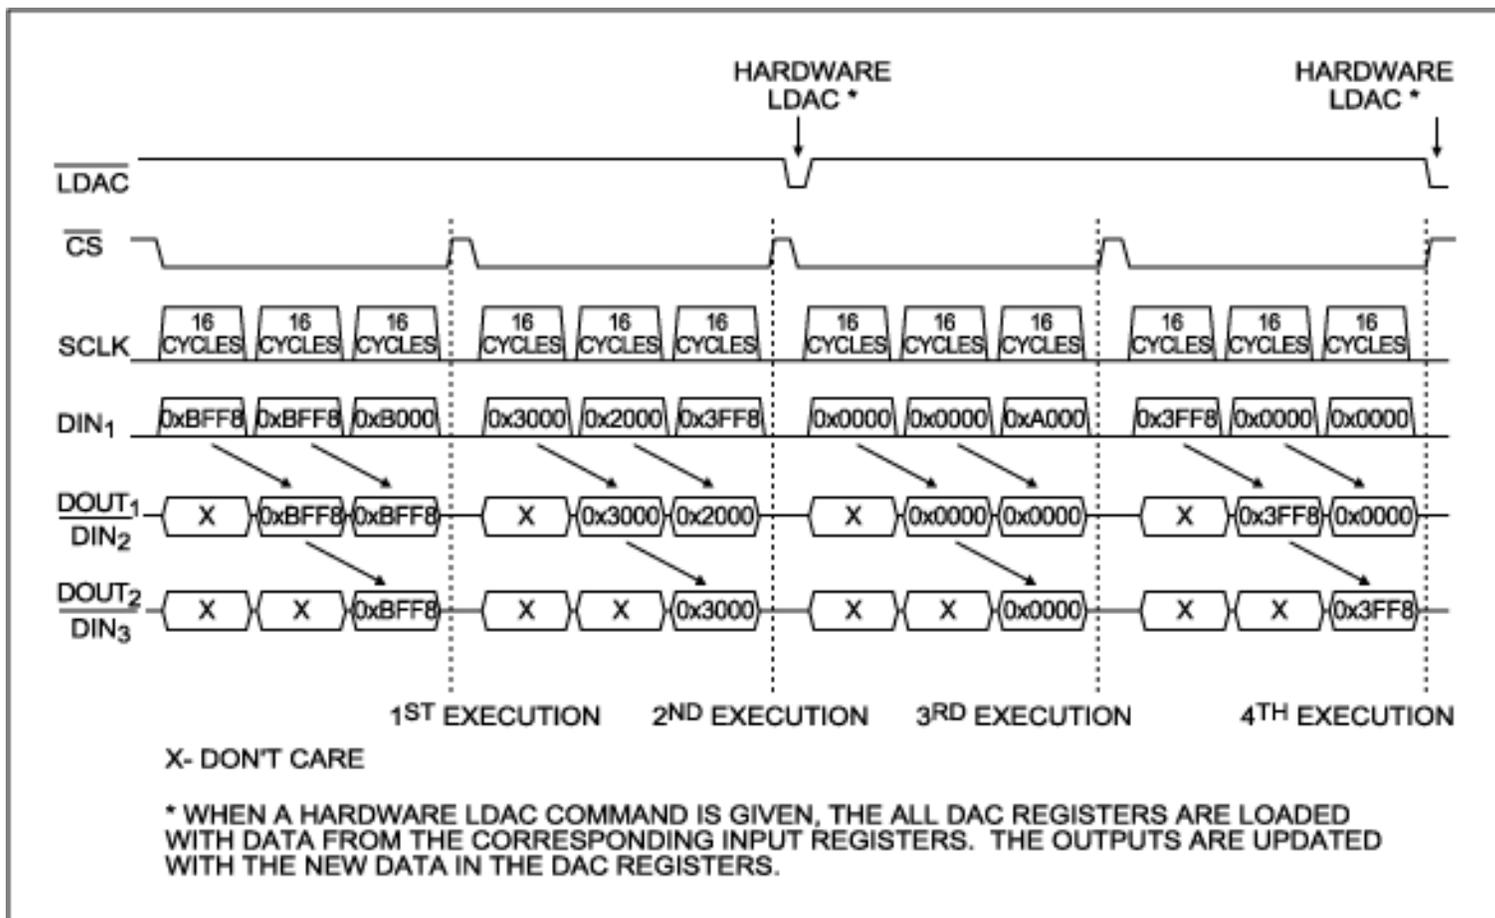

Figure 5. Circuit #1—Command Sequence B.
**Figure 5** illustrates a more complicated command sequence. The following commands are used (See the MAX5233 data sheet for more information.):